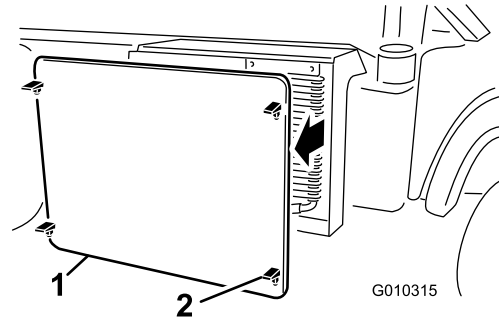

Figure 60
2. Unlatch and remove the radiator screen from the front of the radiator (Figure 60).